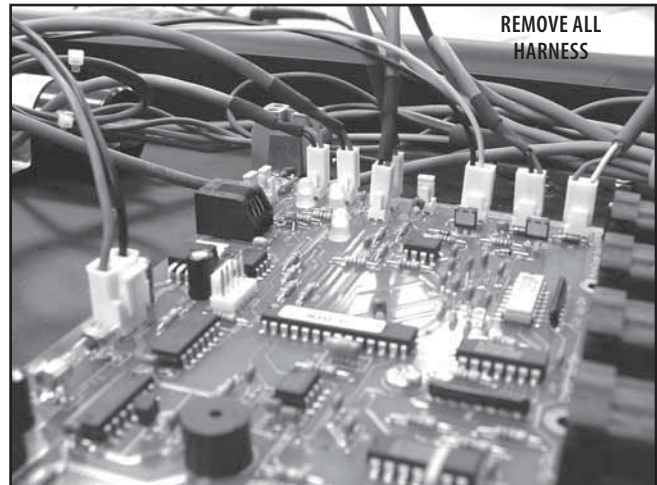

FIGURE 5.10
4. While wearing the Grounding Strap, remove all harnesses from the Control Board. See Figure 5.10.